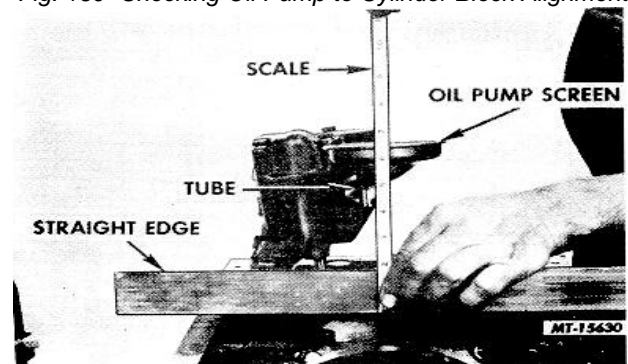

Fig. 161 Checking for Proper Location of Oil Pump Screen
- d. Establish correct oil pump screen position by placing a straight edge across oil pan rails of crankcase and using a scale to measure distance from bottom of straight edge to top of pump screen on both sides (Fig. 161). Pump screen should be parallel with and 165 mm (6-1/4 to 6-1/2 inch) above the pan rails. Tighten oil tube nut per specification in Torque Chart.